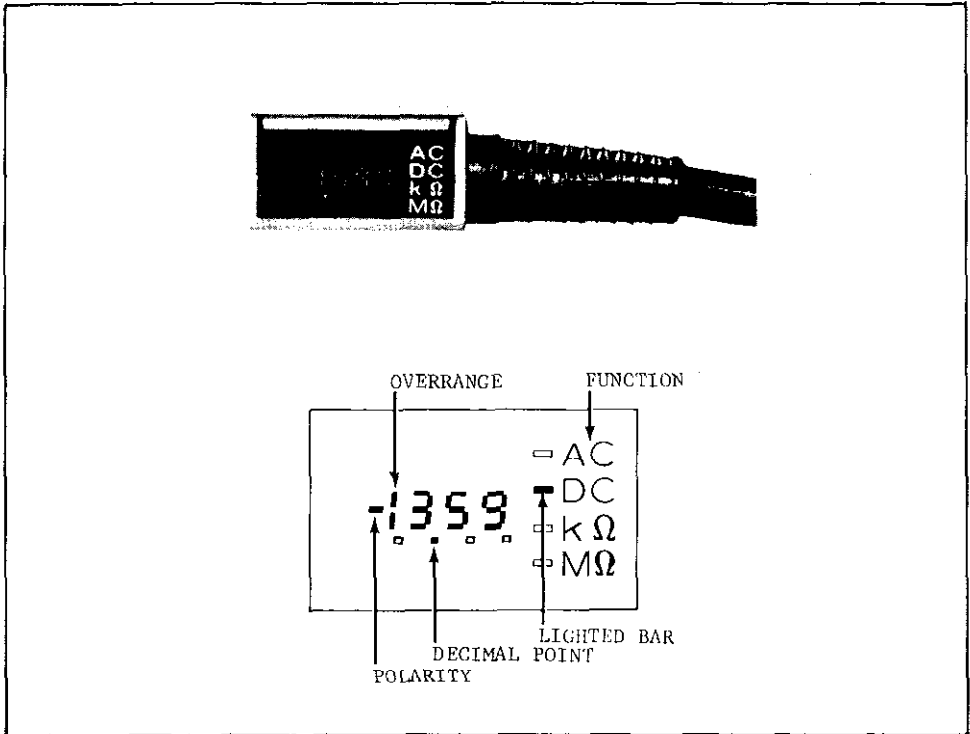

FIGURE 8. Digital Display
1. Measurement Procedure: Depress the "ACV" pushbutton to select ac voltage measurements. Make input connections using the probe or front panel "HI" and "LO" terminals as described in paragraph 3-3. Depress the "push-to-read" switch to turn-on the display. The digital display is described fully in Figure 8 and the caption below the illustration.
a. Measurement Procedure. Depress the "OHMS" pushbutton to select resistance measurements. Make input connections using the probe or front panel "HI" and "LO" terminals as described in paragraph 3-3. Depress the "push-to-read" switch to turn-on the display. The digital display is described fully in Figure 8 and the caption below the illustration.
3-12. **DISPLAY.** The Model 167 display consists of a compact LED module installed in the probe. The display indicates 3 full digits plus overrange "1", automatic decimal location, automatic polarity, and range as shown in Figure 8. The individual digits are composed of seven-segments and are readable from a wide viewing angle since they are in one plane. A lighted bar identifies the function selected as either "ACV", "DCV", or "OHMS". When "DCV" is selected, the polarity is indicated as "-" for a negative input. A positive input is implied if the "-" sign is turned off. The lighted bar indicates either "k Ω " (kilohms) or "M Ω " (megohms) when the "OHMS" function is selected.